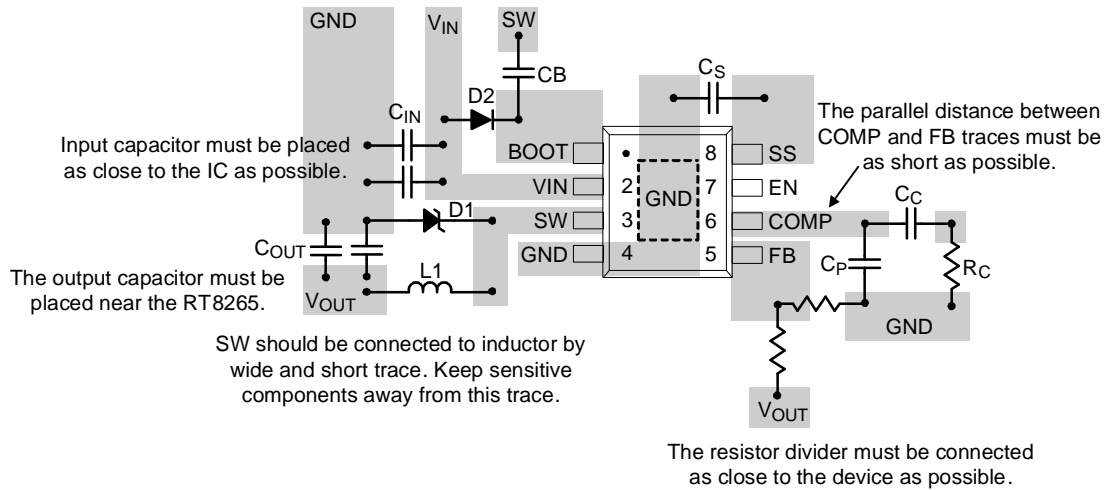

Figure 4
- ▶ An example of PCB layout guide is shown in Figure 4 for reference.